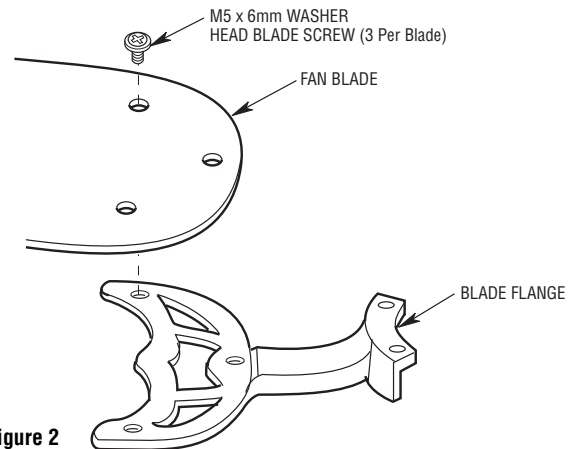

Figure 2
- 6. Mount the blade flanges to fan blades using three M5 x 6mm washer head blade screws per blade (Figure 2).